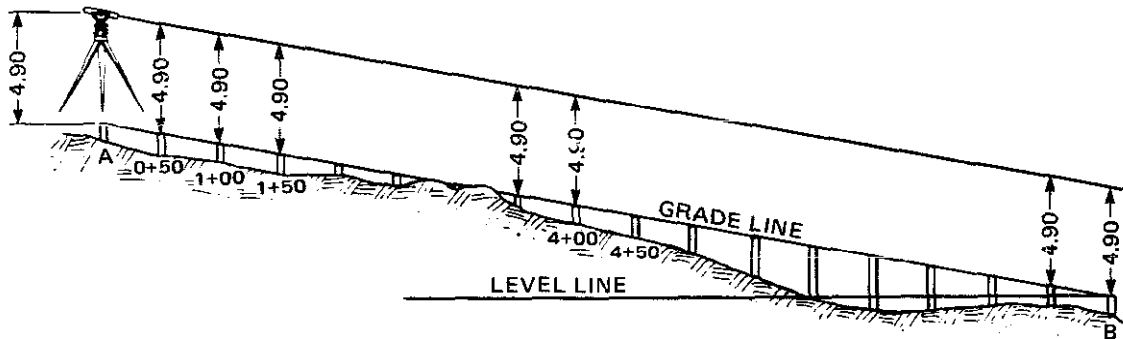

Fig. 5-57 Shooting in a grade line
1. Set up over A, figure 5-57.